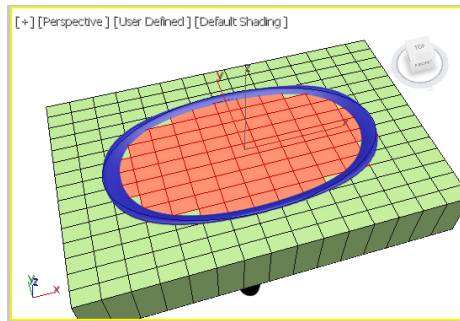
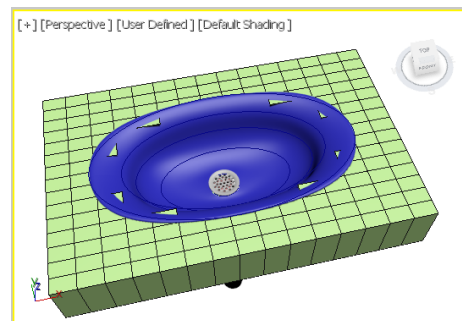

Figure 15-73 The inner polygons selected to be deleted
Figure 15-74 The washbasin slab after deleting the polygons
4. Now, select the inner polygons of *washbasin slab*, as shown in Figure 15-73. Next, delete them, refer to Figure 15-74.